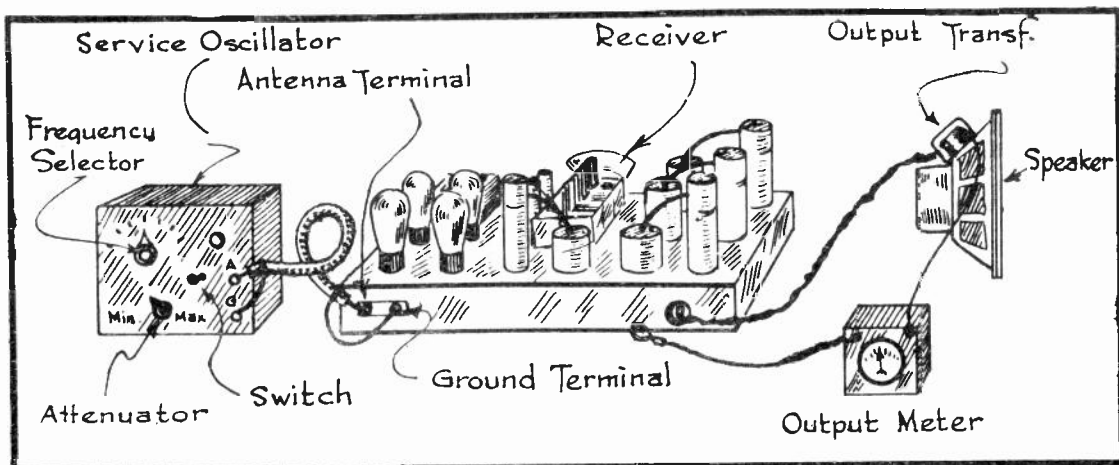

FIG. 1
1. - FIRST CONNECT THE SERVICE OSCILLATOR AND OUTPUT METER TO THE RECEIVER AS ILLUSTRATED IN FIG. 1.